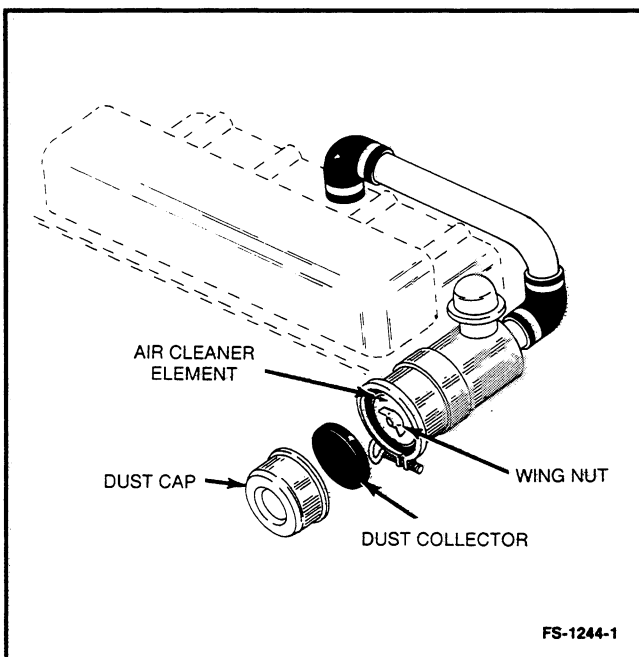

FIGURE 4-16. HEAVY DUTY AIR CLEANER
**To Service the Optional, Heavy-Duty Air Cleaner:** See Figure 4-16.